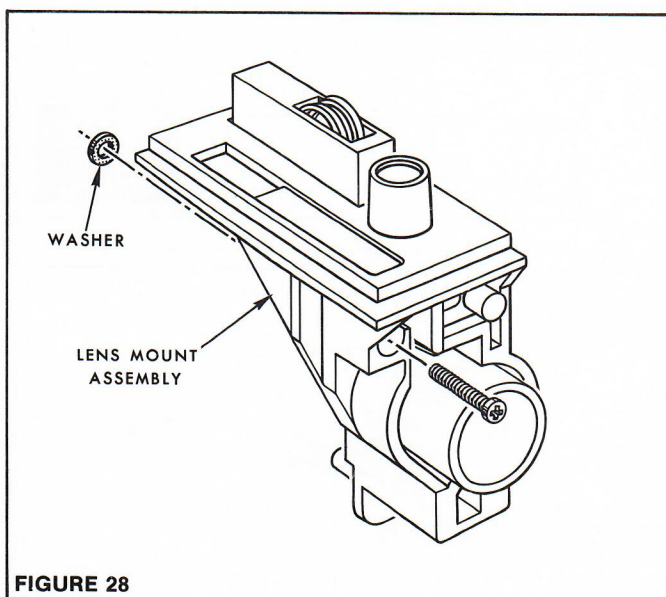

FIGURE 28
2. Add or remove a .010-inch WASHER, as necessary, Figure 28, Page 15.